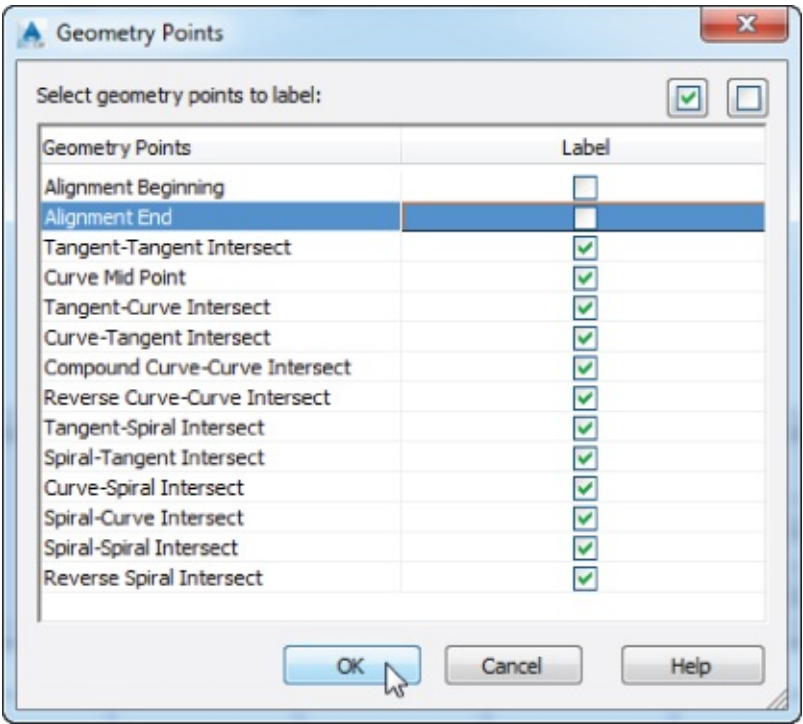

Figure 7.69 The Geometry Points dialog appears when you apply labels to horizontal geometry points.
9. Deselect the Alignment Beginning and Alignment End rows, as shown in Figure 7.69, and click OK to dismiss the dialog.